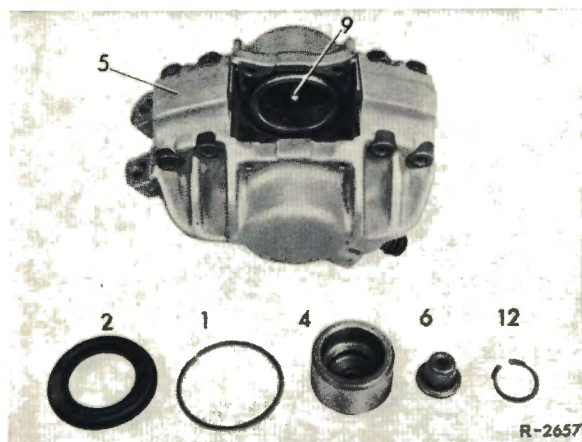

Fig. 42-12/25
7. Remove the piston seals (3) from the grooves in the cylinder bore (Fig. 42-12/24).
The disk wobble compensator in the piston cannot be repaired. It can only be removed from the piston to provide better access for cleaning the piston. To do this remove the circlip (12) from the piston (4) (Fig. 42-12/25).